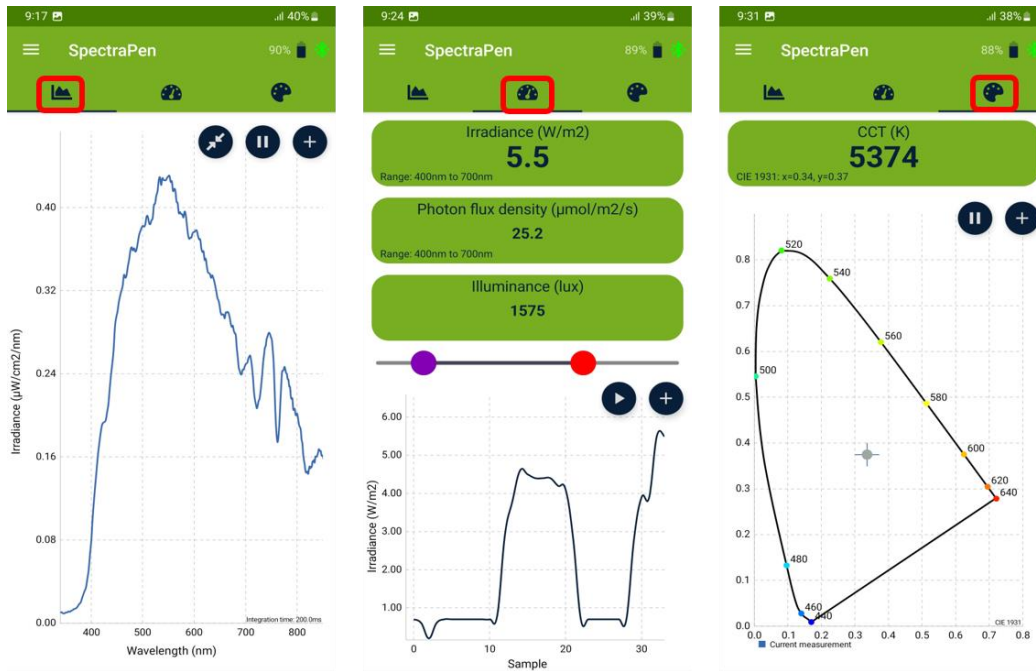

Fig. 6 Real-time reading measurement of light spectrum, light intensity and chromaticity.
- Select between the real-time reading measurement of Irradiance spectrum – **Spectrometer**, light intensity reading as Irradiance, Photon flux density and Illuminance - **Light meter** and objective specification of the quality of a **color** regardless of its **luminance** – **Chromaticity** (Fig. 6).